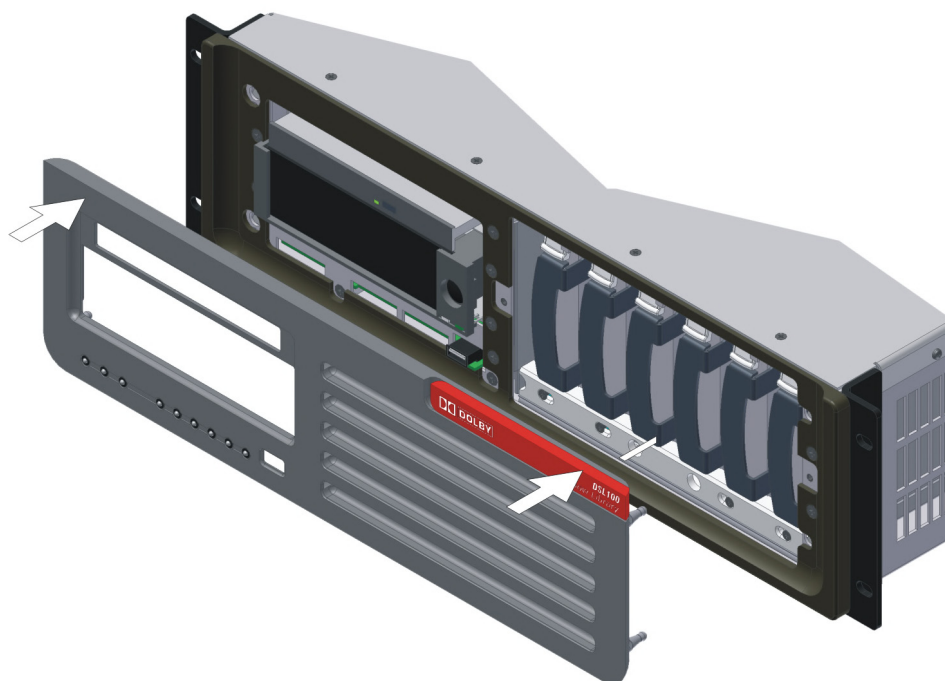

Figure 4-19 Reinstalling the DSL100 Front Panel
7. Grasp the front panel on its left and right sides, line up its four mounting studs with the main unit's four holes (one in each corner), then push until it snaps into place, as shown in Figure 4-19.